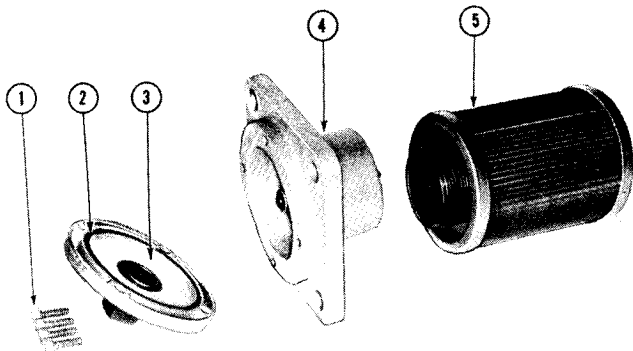

Figure 4-36
Remove cap screws (1, Fig. 4-36) and flange (3) from valve housing (4). Unscrew filter element (5) from valve housing. Check operation of valve. Discard "O"-ring (2).